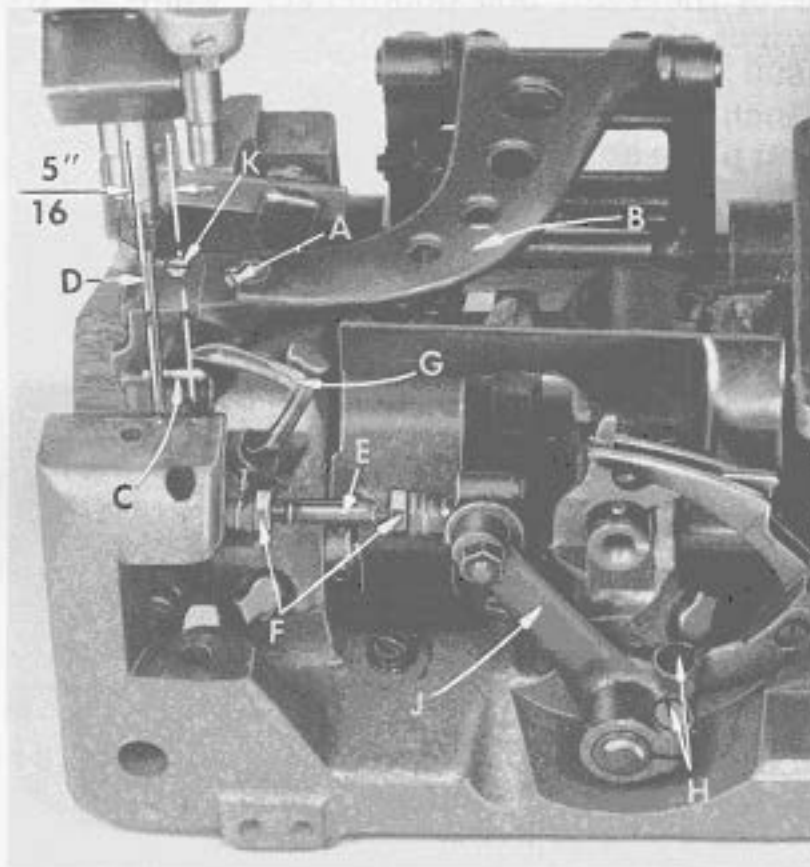

Fig. 2
Remove the presser foot, throat plate and feed dog for convenient access to the machine. Loosen the screw (A, Fig. 2) in the feed bar (B) and push the feed bar needle guard (C) to the rear to avoid its contacting the needle (D). For Styles 80800 E and H, set the looper connecting rod (E) so the distance between the centerlines of the two ball joints is $2 \frac{3}{4}$ inches (See Fig. 3). This dimension should be $2 \frac{11}{16}$ inches on Style 80800 F. If adjustment is necessary, loosen nuts (F, Fig. 2) and turn connecting rod (E) forward or backward as required to obtain specified dimension, retighten nuts (F). NOTE: The right nut has a left hand thread. Set the looper (G) so the distance from the centerline of the needle (D) to the point of the looper (G) is $\frac{5}{16}$ inch, when the looper is at its farthest position to the right. Looper gauge No. 21225-5/16 can be used advantageously in making this adjustment. Loosen screws (H) in the looper drive lever (J), reposition as required to obtain specified dimension